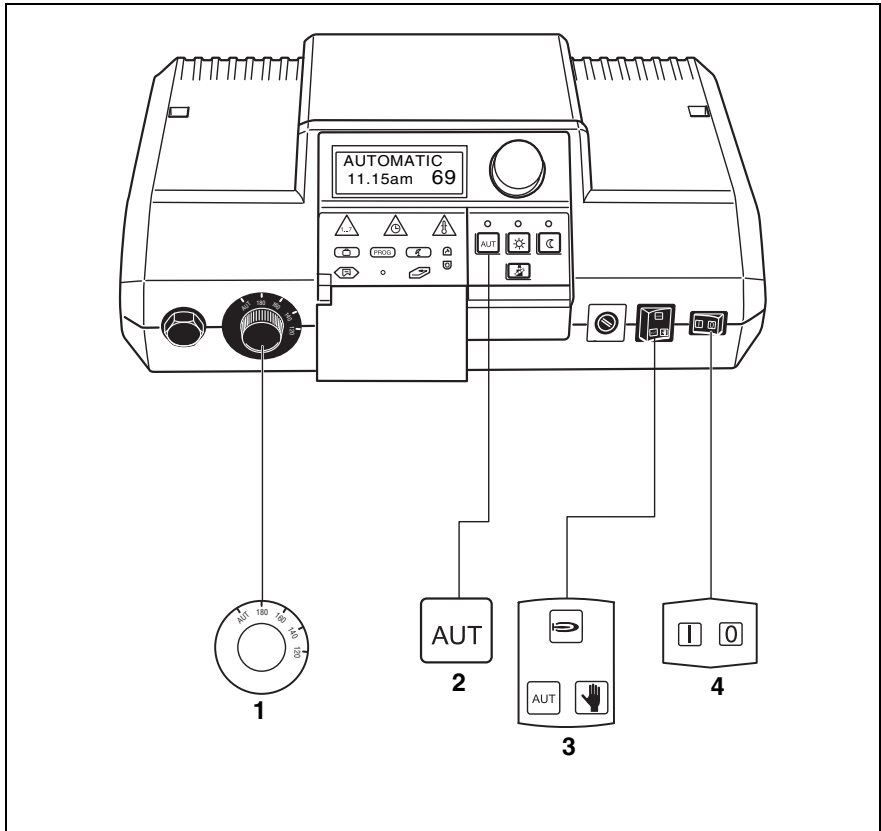

Fig. 8 Keys required to start up
- Set the ON/OFF switch to " I " (ON) (Fig. 8, **Item 4**).
- Set the boiler water thermostat to "AUT" (Fig. 8, **Item 1**).
- Set the Automatic mode, Emergency mode, Heating and DHW switch to "AUT" (Fig. 8, **Item 3**).
- Press the "AUT" key to start automatic mode with program (see "Changing the operating mode" page 22) (Fig. 8, **Item 2**).
Set the ON/OFF switch to "0" (Fig. 8, **Item 4**).